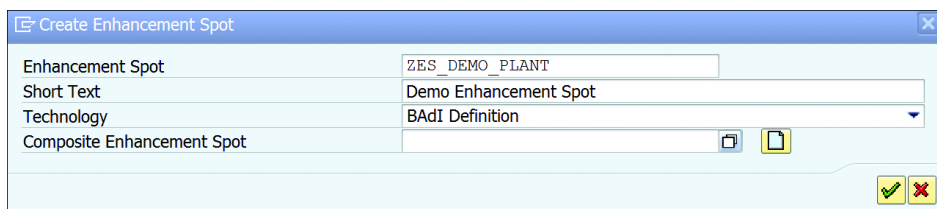

Figure 20.30 Create Enhancement Spot
2. On the CREATE ENHANCEMENT SPOT screen, as shown in Figure 20.30, provide a short description. In the TECHNOLOGY dropdown box, select BAdI DEFINITION. In the COMPOSITE ENHANCEMENT SPOT field, you can enter the composite enhancement spot name, which simply groups the related enhancement spots. Enhancement spots grouped into a composite enhancement spot are displayed in a tree structure, allowing you to check dependencies and change all related enhancement spots together. This only has a semantic meaning and is similar to grouping related objects into a package.
3. Click the green checkmark (OK) to continue.
Once you click the green checkmark on the CREATE ENHANCEMENT SPOT screen shown in Figure 20.30, the system will take you to the ENHANCEMENT SPOT CHANGE screen, which contains four tabs.